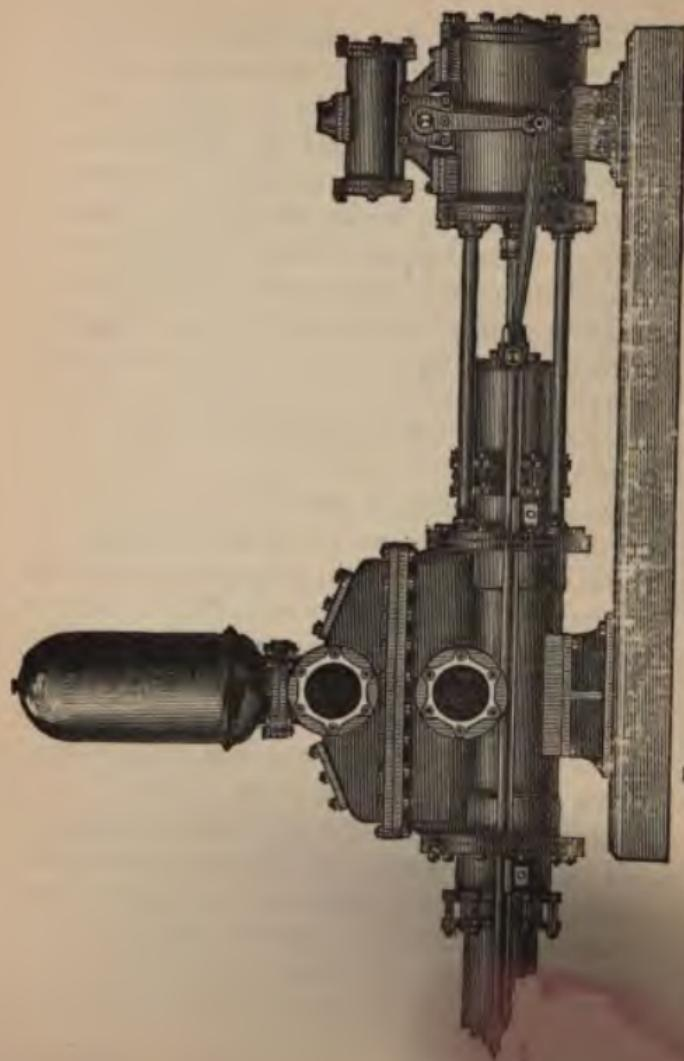
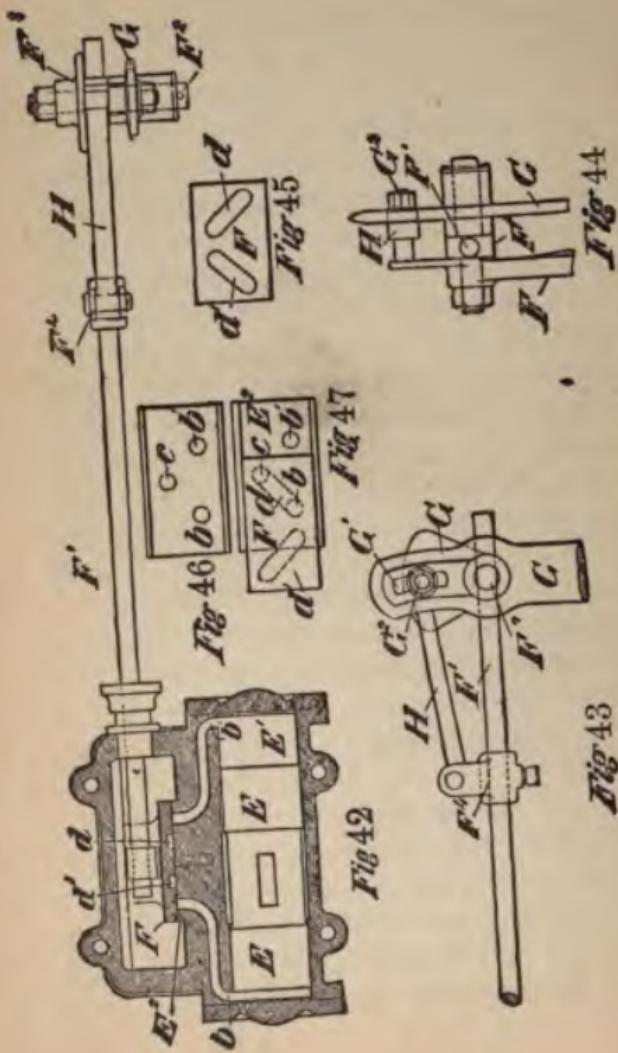
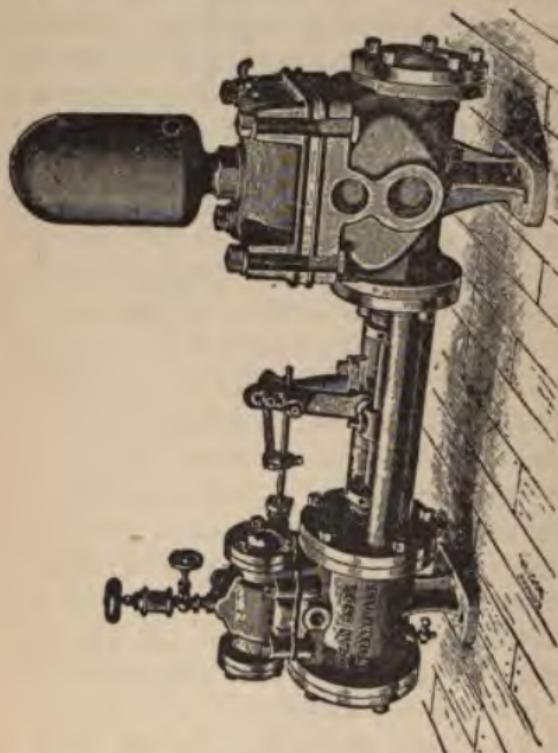

FIG. 41.—DAVIDSON PLUNGER PUMP.
FIG. 42 TO 47.—DEAN BROS. PUMP, DETAILS OF PARTS.
FIG. 48 — DEAN BROS. PISTON PUMP.
A. Fig. 41 is a vertical section through centre line of cylinders. Figs. 42 to 47 show the steam valve gear in detail. Fig. 48 shows the pump in perspective. The operation of the steam valve gear is as follows: The main slide valve has a lug on its back which fits into the auxiliary piston *E*. The valve is carried back and forth by said piston. The auxiliary valve *F* slides on the valve seat *E*2, and is provided on its underside with the diagonal exhaust cavities *d d*. The valve-rod *F*1 is secured to the valve *F*, and has its outer bearing in a stud *F*2, fastened to a post *F*3, bolted to the main frame of the steam pump. The ports *b b*1 and *c* are arranged in the shape of a triangle on the face of valve-seat *F*1, and the diagonal cavities *d* and *d*, on the underside of the auxiliary valve *F* diverge from each other, whereby the cavity